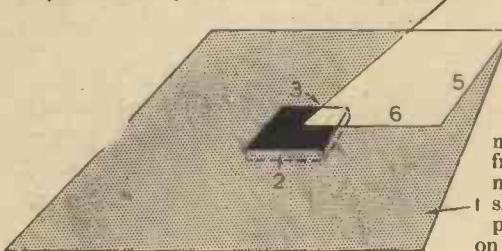
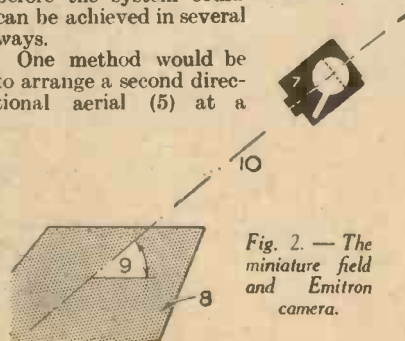

Fig. 1.—How the aeroplane approaches the landing field and directional aerials.
Fig. 2.—The miniature field and Emitron camera.
They set out with the idea that it would be much better for a pilot to see the aerodrome as he approaches it, and this is how it can be achieved. The aeroplane (4) is in position A while approaching the aerodrome. (Fig. 1.) It transmits a signal which is picked up by the directional aerial (3) situated in the centre of the aerodrome. On the field itself, beneath the aerial, is a room containing an Emitron television camera and miniature transmitting apparatus (7) (Fig. 2). The camera would be focused on a miniature model of the aerodrome and surrounding district, as shown. The model replica of the landing field is so fixed that it will pivot round to any angle with respect to the axis (10) of the camera. This angle is made to depend on the position of the directional aerial taking up the signals
aeroplane transmitter and the directional aerial on the ground; for example, in Position B, Fig. 1, and would need location before the system could be of use. This can be achieved in several ways.